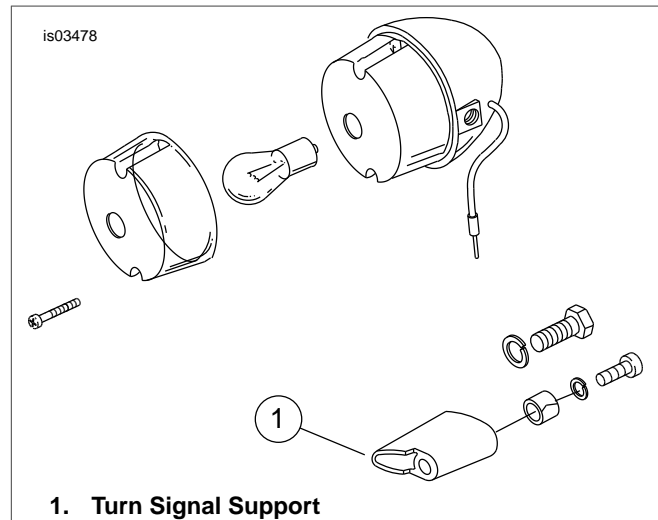

Figure 4. Softail Rear Turn Signal (Typical Airfoil Style Support)
3. See Figure 4. Remove lamp housing from turn signal support, then remove support. Save hardware for installation. Discard support.